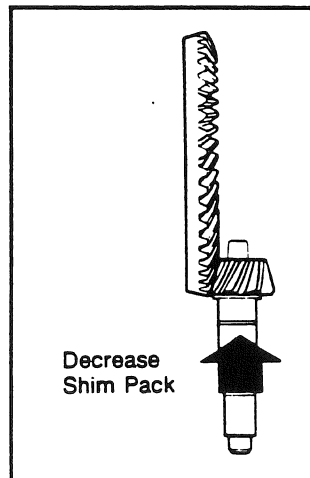

Fig. 84
b) To correct a high contact pattern (see Fig. 81), decrease the shim pack thickness under the bearing cage. When you decrease the shim pack thickness, the drive pinion moves toward the ring gear (see Fig. 84).